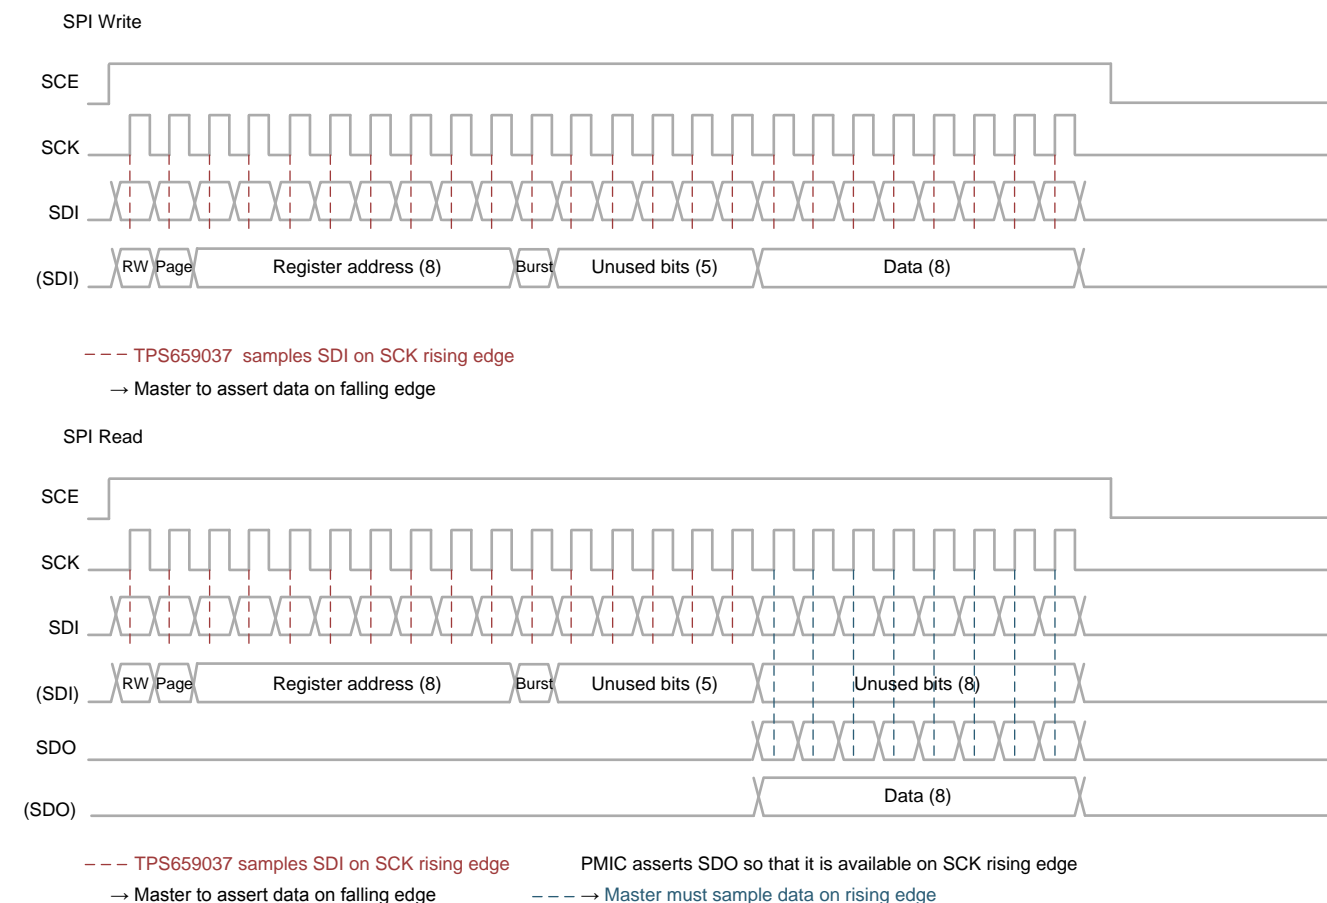

图 5-15. SPI Single Read and Write Access
- This consists of fetching and storing one single data location. The protocol is depicted in 图 5-15.